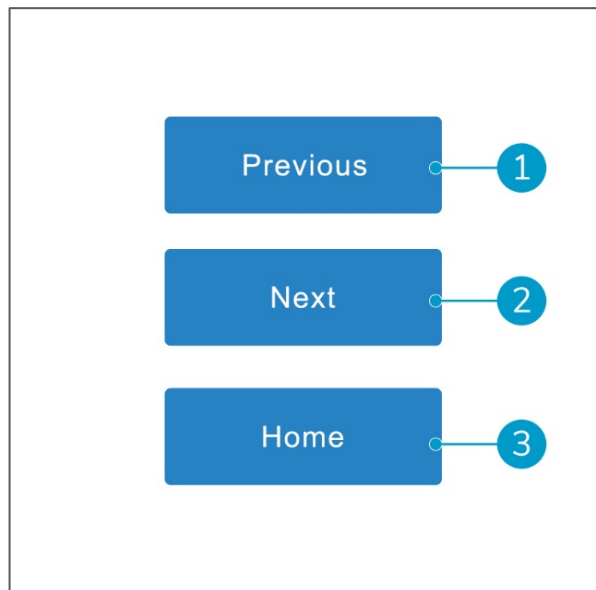

Figure 8
1. With the previous button (Figure 8, pos 1) you can go to the previous day. Maximum up to 7 days.
2. With the next button (Figure 8, pos 2) you can go to the next day.
3. With the home button (Figure 8, pos 3) you can go to the main screen.